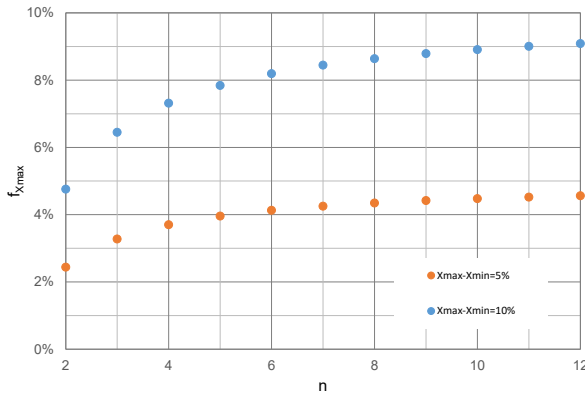

Figure 3:  $f_{Xmax}=f(n)$  describes the worst-case  $f_X$  according to (4)
tion for a given parameter  $X$ .  $f_X$  reaches its maximum for the smallest  $X_{avg}$  and the largest  $\Delta X$ . The minimum  $X_{avg}$  for  $n$  modules is given by equation (5). (5) inserted into (4) results in (6), which is a universal equation for  $f_{Xmax}$  in dependence of  $n$ . For  $n \rightarrow \infty$ , the limiting value is obtained according to (7). Figure 3 shows  $f_{Xmax}$  in dependence of  $n$  for a difference of 5% and 10% between  $X_{max}$  and  $X_{min}$ .
$R_d$  and  $V_0$  are sufficiently linear depending on the  $V_{CEsat}$  or  $V_F$ , and therefore can be obtained for differing on-state characteristics by a linear regression function. (8) delivers the maximum current mismatch for  $n$  paralleled modules. According to figure 3, the maximum current mismatch for  $n=6$  modules and  $\Delta i=i_{max}-i_{min}=10\%$  amounts to  $f_{imax} \approx 8\%$ . Assuming a typical selection of modules with various  $R_d$  and  $V_0$  values, the individual module currents can be calculated ac-